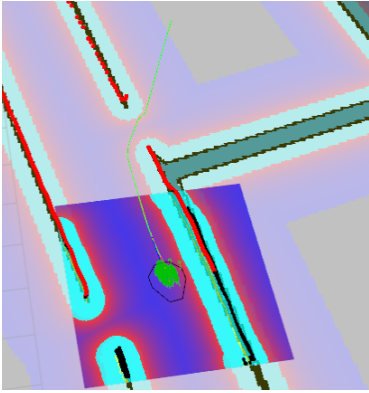

Figure 5:  $\text{cost\_factor} = 0.01$
**Experiment observations** Experiments have confirmed this explanation. Setting `cost_factor` to too low or too high lowers the quality of the paths. These paths do not go through the middle of obstacles on each side and have relatively flat curvature. Extreme `neutral_cost` values have the same effect. For `lethal_cost`, setting it to a low value may result in failure to produce any path, even when a feasible path is obvious. Figures 5 – 10 show the effect of `cost_factor` and `neutral_cost` on global path planning. The green line is the global path produced by `global_planner`.